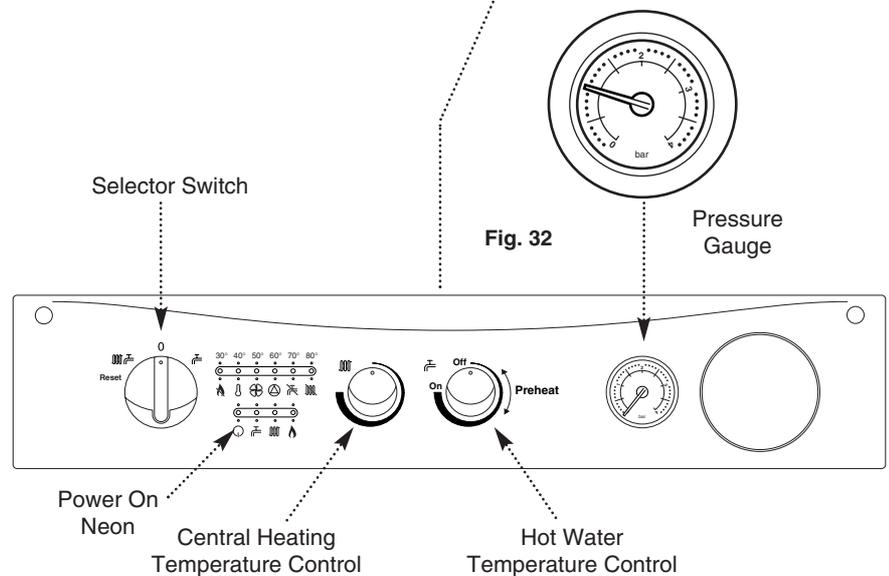

Fig. 33
10. If at any time during commissioning it is required to terminate a particular cycle, e.g. the pump overrun period, turn the selector to the OFF position and then back to either (☐) or (☐) (Fig. 33).